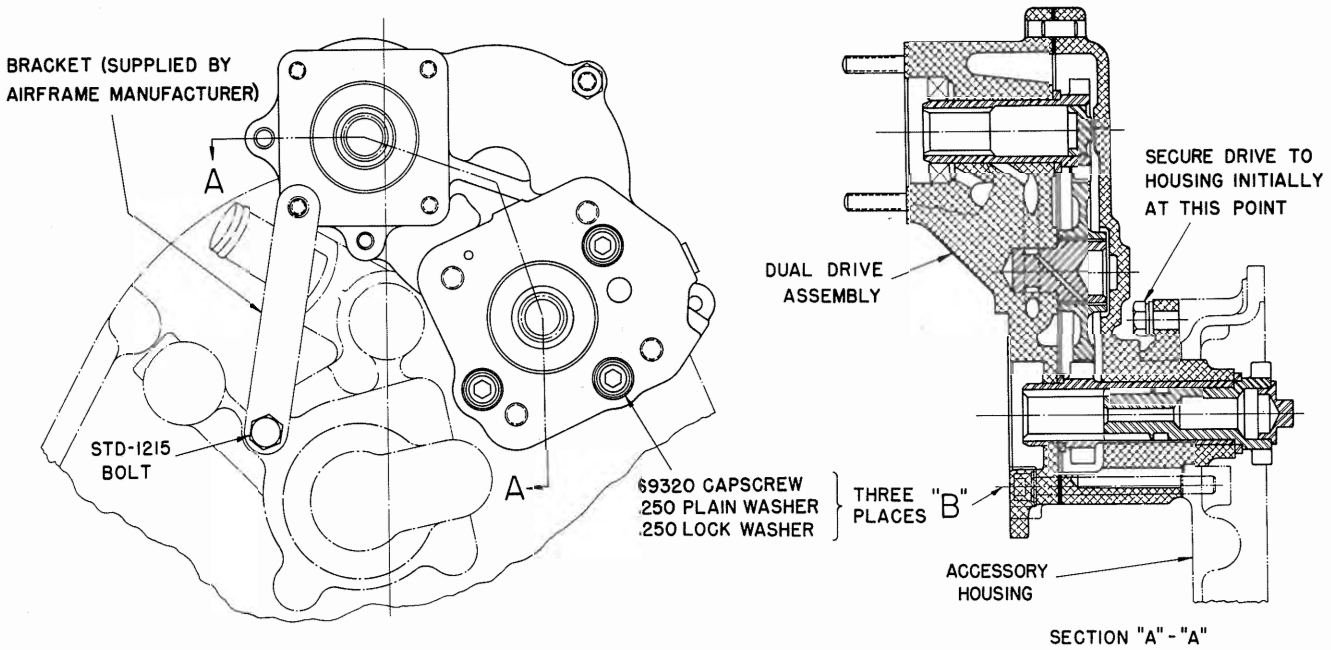

Figure 134 - Dual Drive Assembly
4. Mount the drive assembly on the vacuum pump mounting pad as shown in figure 134, securing the assembly in place as follows: Install a 1/4-20 nut, plain washer, and lock washer on the stud installed in the accessory housing in step 3 above. Install three 1/4-20 socket head capscrews, plain washers, and lock washers in the three holes ("B," figure 134) in the governor drive mounting pad.
5. Install the vacuum pump and propeller governor on the dual drive housing. Use the gasket provided in the kit and the nuts and washers removed from the original vacuum pump drive on the accessory housing to attach the vacuum pump to the mounting pad. Secure one end of the P-7068-Y bracket (supplied by the airframe manufacturer) to the lower left hand stud on the vacuum pump pad and attach the other end to the upper left hand corner of the pressure screen housing mounting flange as shown in figure 134, using the STD-1512 bolt provided. Check bracket for fit after vacuum pump is installed. Before mounting the governor, install a 69827 gasket, 69737 spacer, and 69723 gasket on the mounting pad in the order named. Attach the governor with the 5/16-18 bolts, plain washers, and lock washers provided.